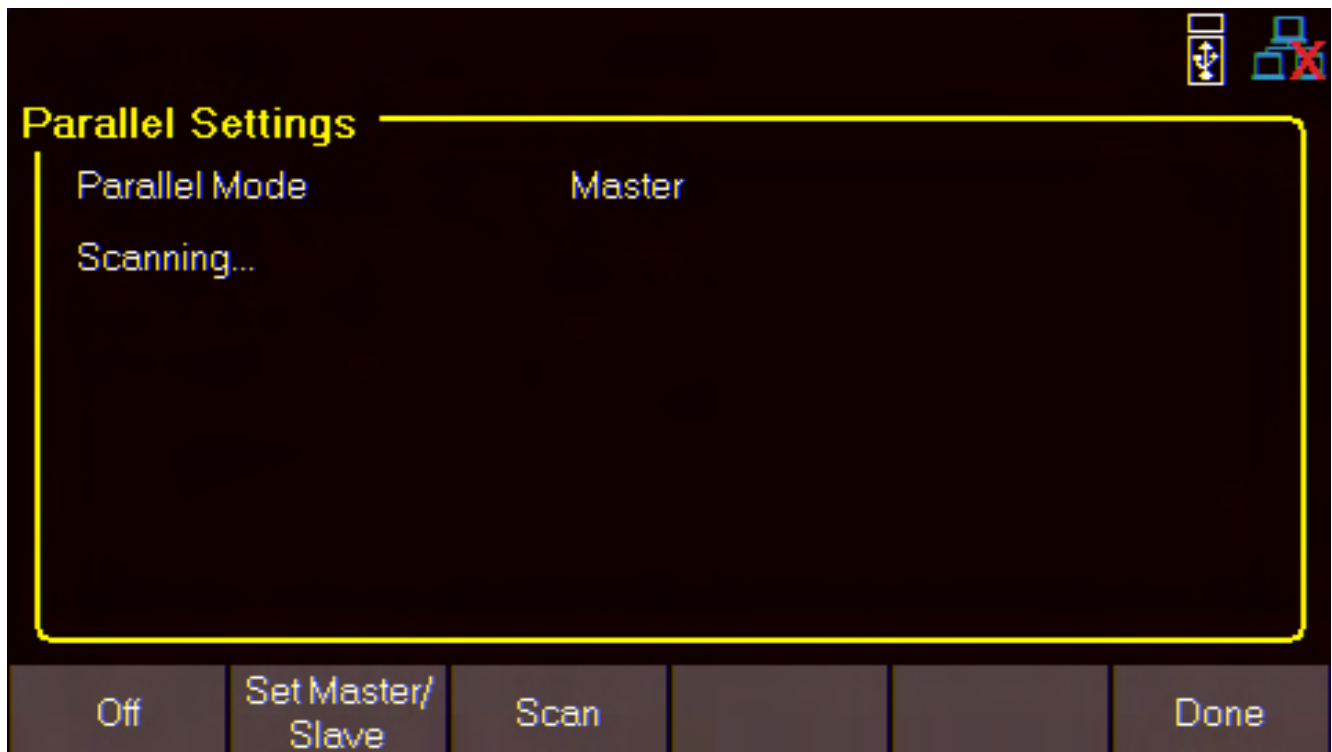

Figure 6.29 Scanning
- The instrument will indicated it is scanning as shown in bold **figure 6.29**.